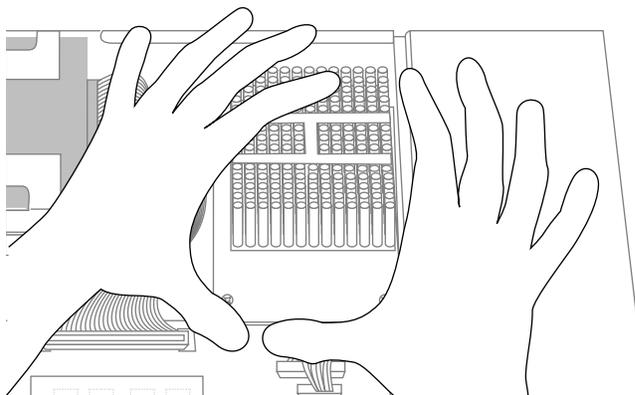

Figure 1-41 Disconnecting the CPU Module
- Lift the board by bracing your hands against the power supply and the chassis and pushing the board up with your thumbs, as shown in Figure 1-41.